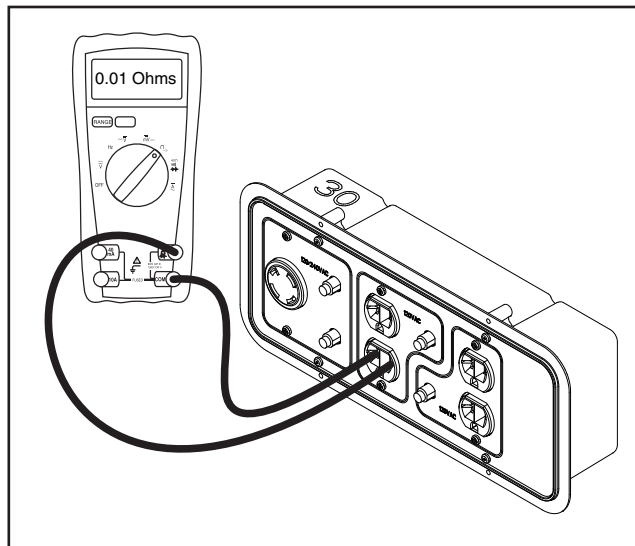

Figure 3. Checking Continuity of Receptacles
2. Connect a VOM as shown in Figure 3 to each receptacle on the unit.